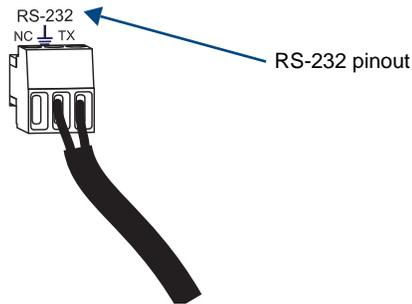

FIG. 23 Wire RX for RS-232 data transfer
1. Wire the RS-232 connector according to the pinout directly above the connector (FIG. 23).